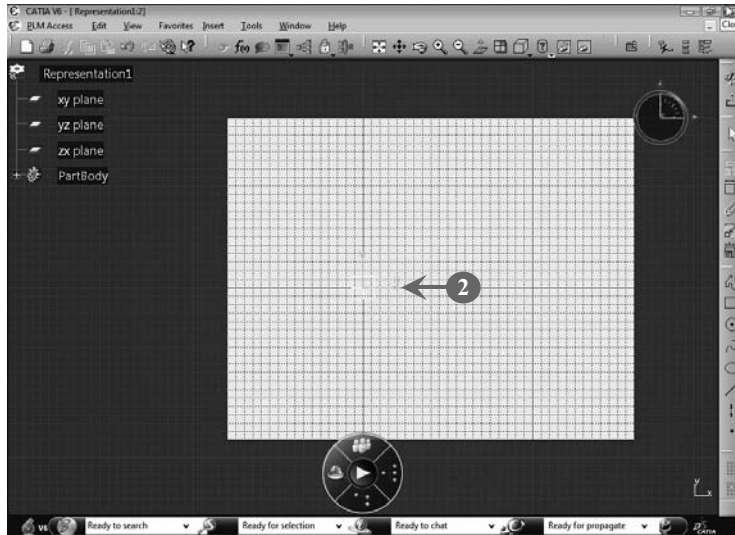

FIGURE 3.113
2. Open the solid model in the  $xy$ -plane of the Sketcher workbench to add a circular pattern, as shown in **Figure 3.113**: